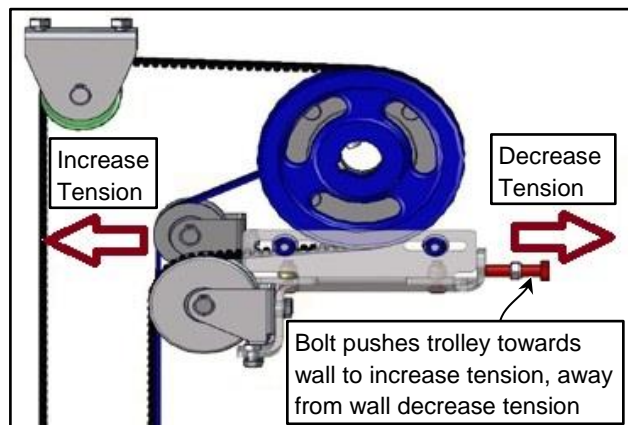

Figure 53
The trolley at the top of the side column increases tension as the trolley is moved towards the wall and decreases the tension when moved away from the wall. (See Figure 53)
6. If additional tension on the L – Size door is required the trolley at the top of the side column can be adjusted for additional tension. (See Figure 53)